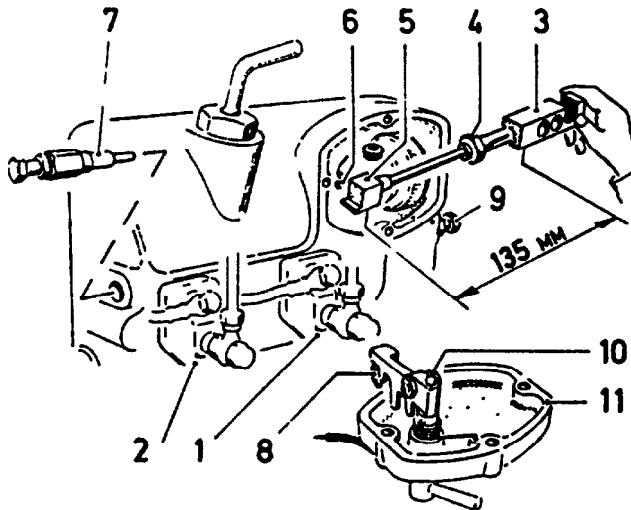

Fig 66
Re-assembly of cover: See page 47, para 5 (adjustment of full speed setting, fig 66).
Before the pumps can be removed, the governor cover (fig 66, item 11) must be taken off and the governor arm link pin (2) withdrawn.